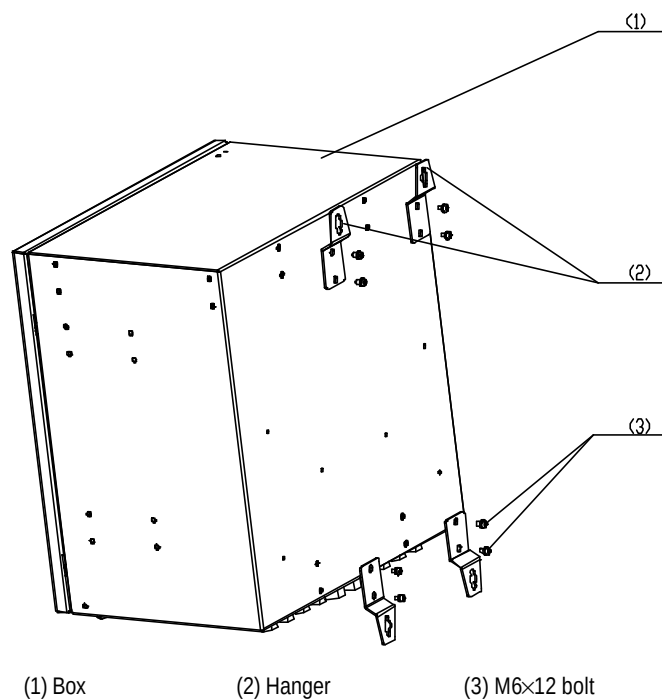

Figure A-3 Installing hanger
- 5) Use combination screw M6×12 to mount the 4 hangers on the back of the box, as shown in Figure A-3.